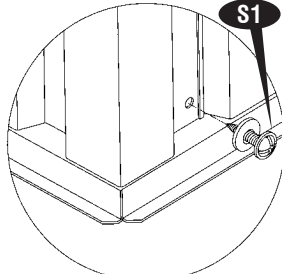

Fig.2
23. Place the wall panel (WS) on the base bar (BRA). Line up the holes with the base bar and use (S1) screws with washers to secure. See fig. 2. Use (S3) nut and bolt with washer to join together